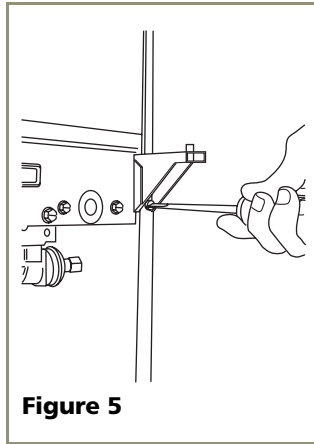
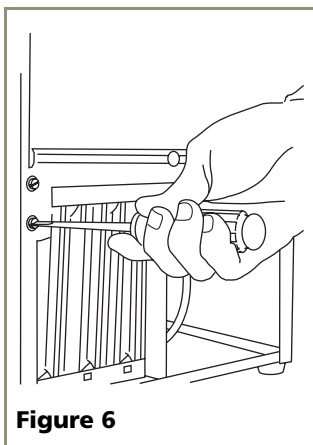

Figure 5
Figure 6
3. Remove bottom hinge from cabinet (two screws). See **Figure 5**. Remove screws on opposite side of cabinet (**Figure 6**). Note that there may be a nut behind one or both screws on either side.